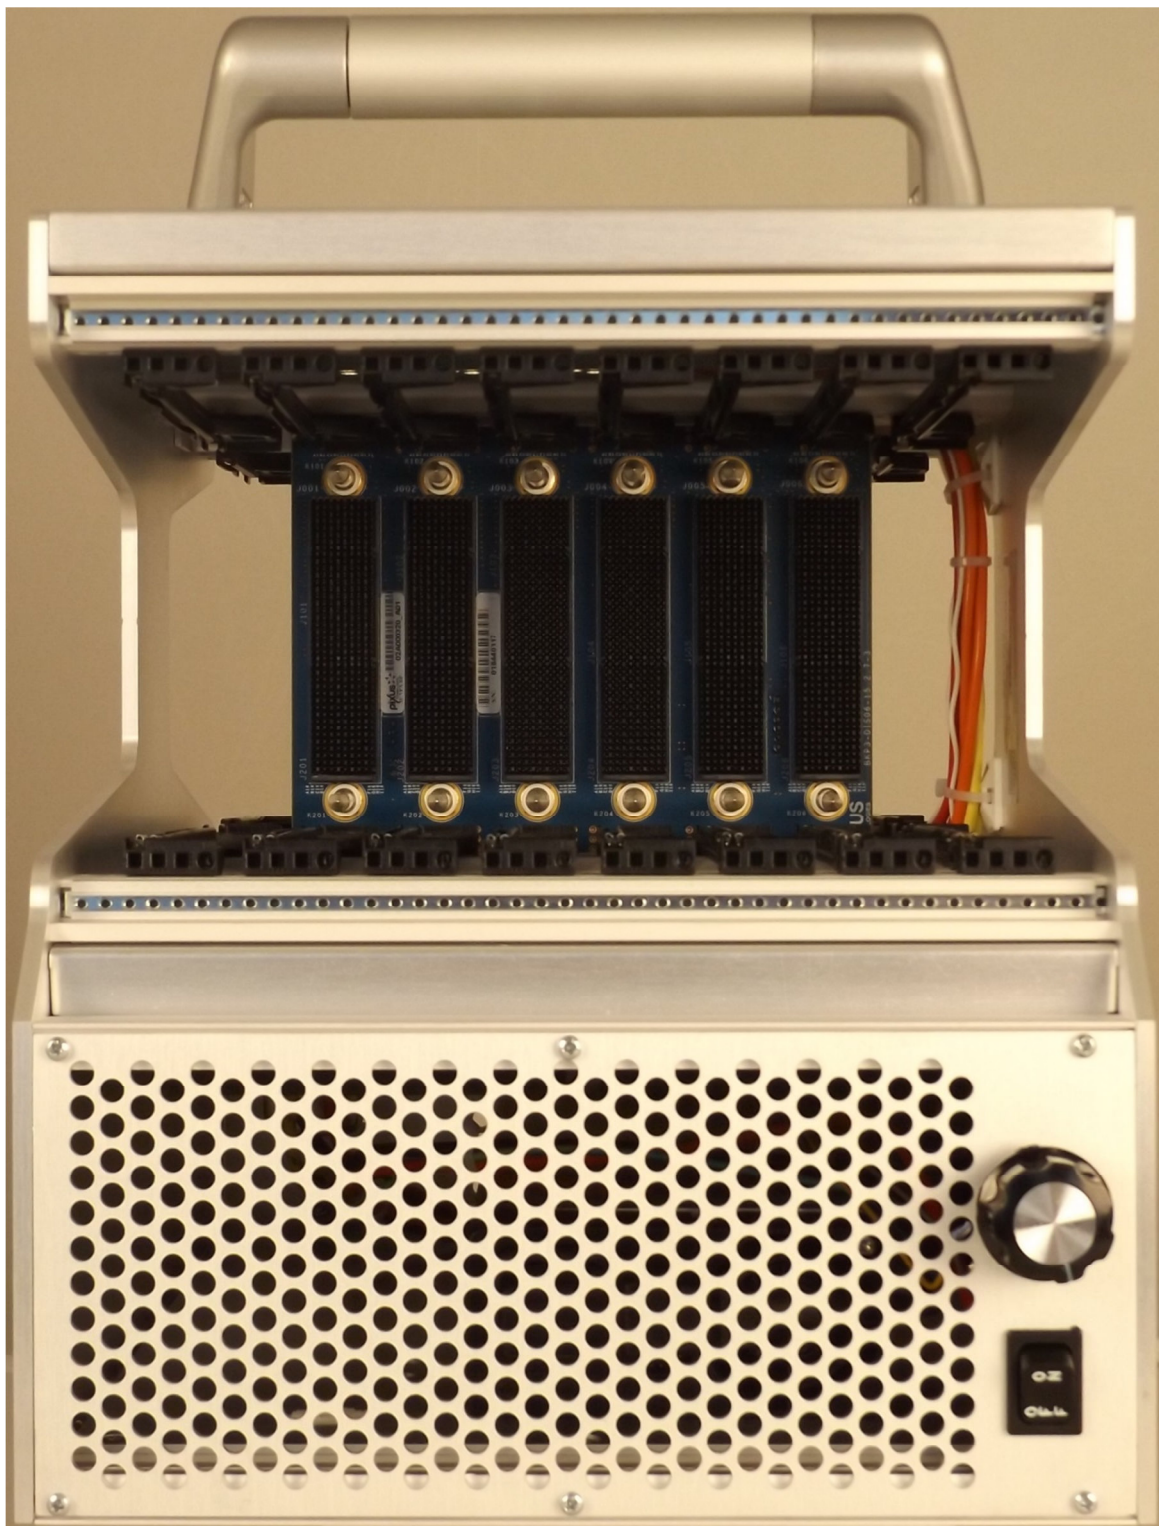

Figure 2-1: Chassis Front View
Figure 2-1 shows the chassis front view. Note that the 3U and 6U chassis are identical except for the size of the Plug-In Module area.
1. Ensure the power switch on the front of the chassis (for location, refer to Figure 2-1) is set to “OFF”. Figure 2-3 shows the power switch and fan speed control knob.